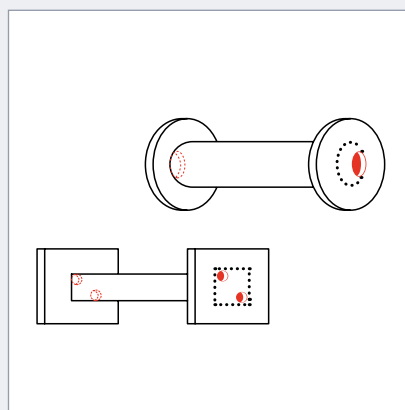

Fig. 18
- Where holes are provided in end plates or capping pieces, they should be placed diagonally opposite to one another, off centre and as near as possible to the wall of the member to which the end plate is connected (fig. 18).